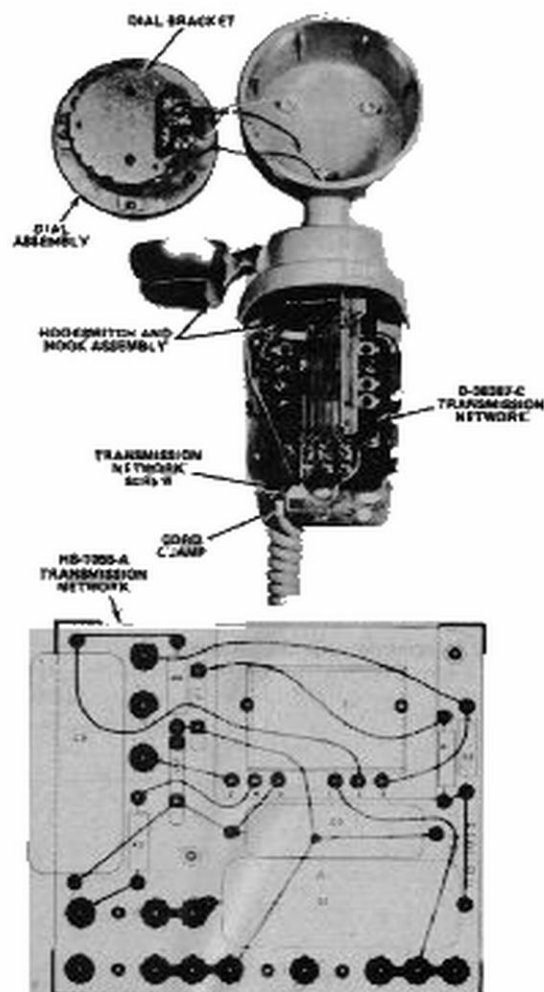
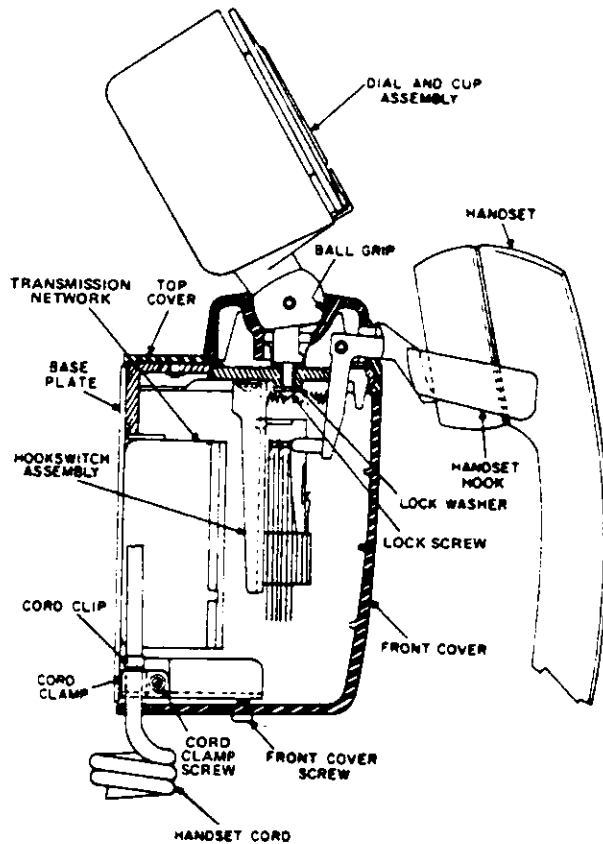

Figure 2. Front View of Type 183 Telephone With Dial Assembly and Housing Removed.
Figure 3. Potted Self-Compensating Type 183 Telephone – Cross Section.
- (c) Loosen the Phillips-head lock screw (Figure 3) sufficiently for the circular die-cast plate (on which the hookswitch is mounted) to be moved downward approximately one-eighth inch.
- (g) Place the hookswitch and hook assembly on the baseplate just above the transmission network (Figure 2). The Phillips-head lock screw (Figure 3) should be loosely installed to allow approximately one-eighth inch clearance before assembly.
- (d) Release the handset cord strain relief clamp (Figure 3) from the telephone baseplate. Release the stay cord hook, and pull out the cord through the cord clamp.
- (e) Replace and hook the handset cord strain relief clamp to the telephone baseplate as shown in Figure 3.
- (f) Route the handset cord to the telephone terminals as shown in Figure 2.
- (c) Remove the transmission network mounting screw from the cable clamp (Figure 3).